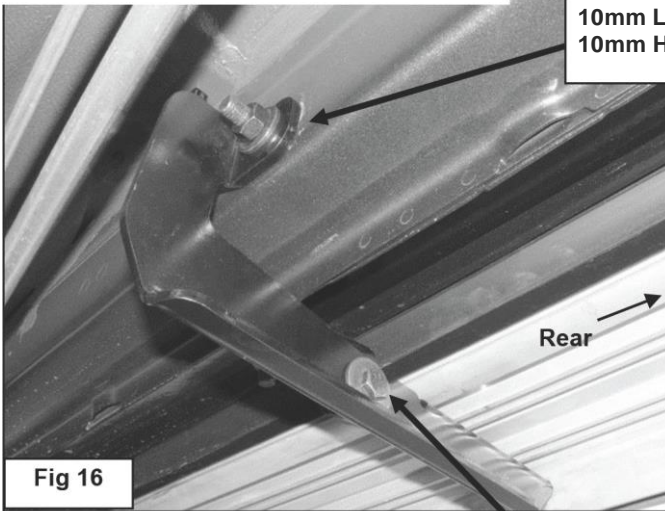

Fig 16
13. Select (1) Center Support Bracket, (Figure 15A). Attach the long end of the Support Bracket to the forward Bolt Plate in the frame channel with (1) 10mm Flat Washer, (1) 10mm Lock Washer and (1) 10mm Hex Nut, (Figures 158 & 17). Select the passenger side Center Bracket, (Figure 16). Attach the Bracket to the Bolt Plate in the back of the frame channel with (1) 10mm Flat Washer, (1) 10mm Lock Washer and (1) 10mm Hex Nut. Bolt the remaining end of the Support Bracket to the front of the Center Bracket with (1) 8mm Hex Bolt, (2) 8mm Flat Washers, (1) 8mm Lock Washer and (1) 8mm Hex Nut, (Figure 17). Do not tighten hardware at this time.